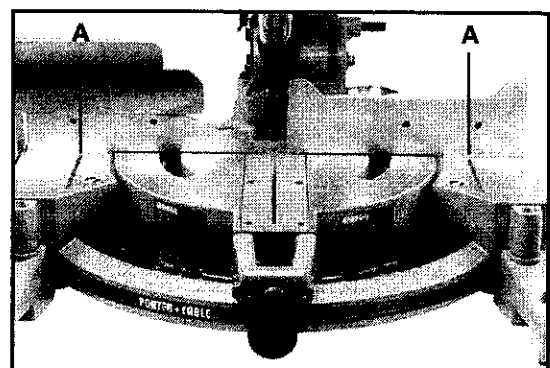

Fig. 17
WARNING: THE AREA INSIDE THE TWO RED LINES (A) FIG. 17 ON THE TABLE IS DESIGNATED AS A HAZARD ZONE. NEVER PLACE YOUR HANDS INSIDE THIS AREA WHILE THE TOOL IS BEING OPERATED.